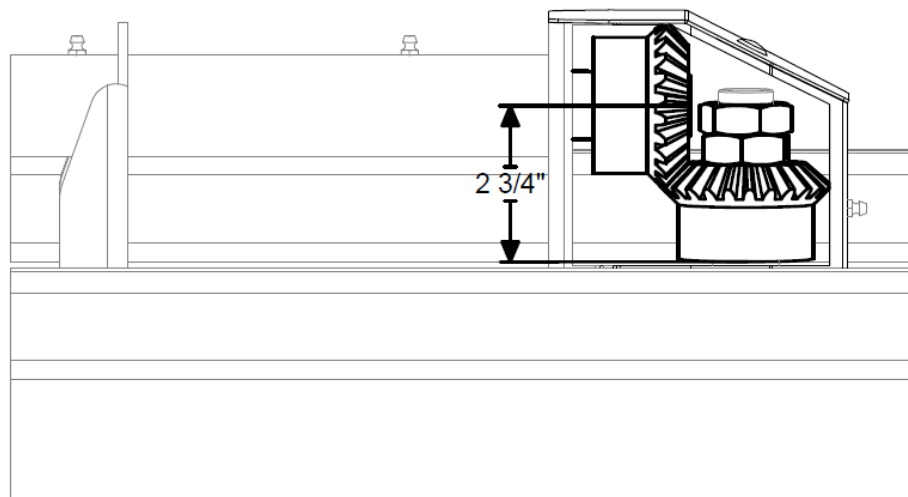

Fig.3.1
- Gears should mesh together so that they are 2 3/4" from bottom to center and do not bind. Front faces are 90° to each other. (*Fig.3.1*)